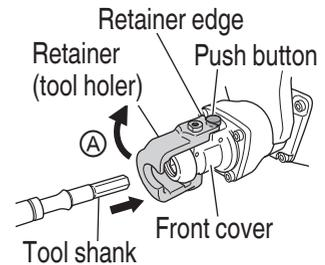

Fig. 2
- (2) Press the push button, slightly lift the tool retainer in the direction of arrow **A** as shown in **Fig. 2** to hook the tool retainer edge with the push button and engage the push button.
- (3) Release your finger from the push button and further lift the tool retainer in the direction of arrow **A**.